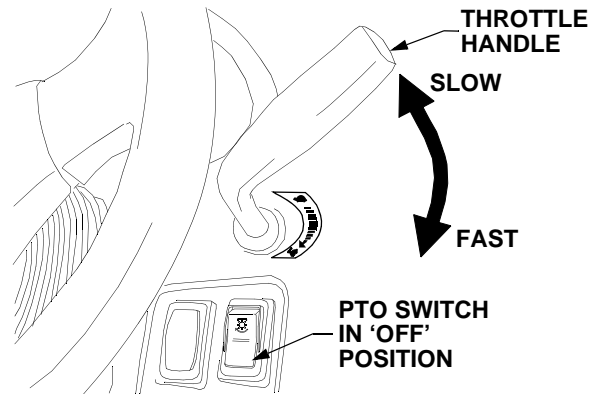

Figure 14
- Move the throttle handle to midway between the "SLOW" and "FAST" position. Refer to Figure 14.